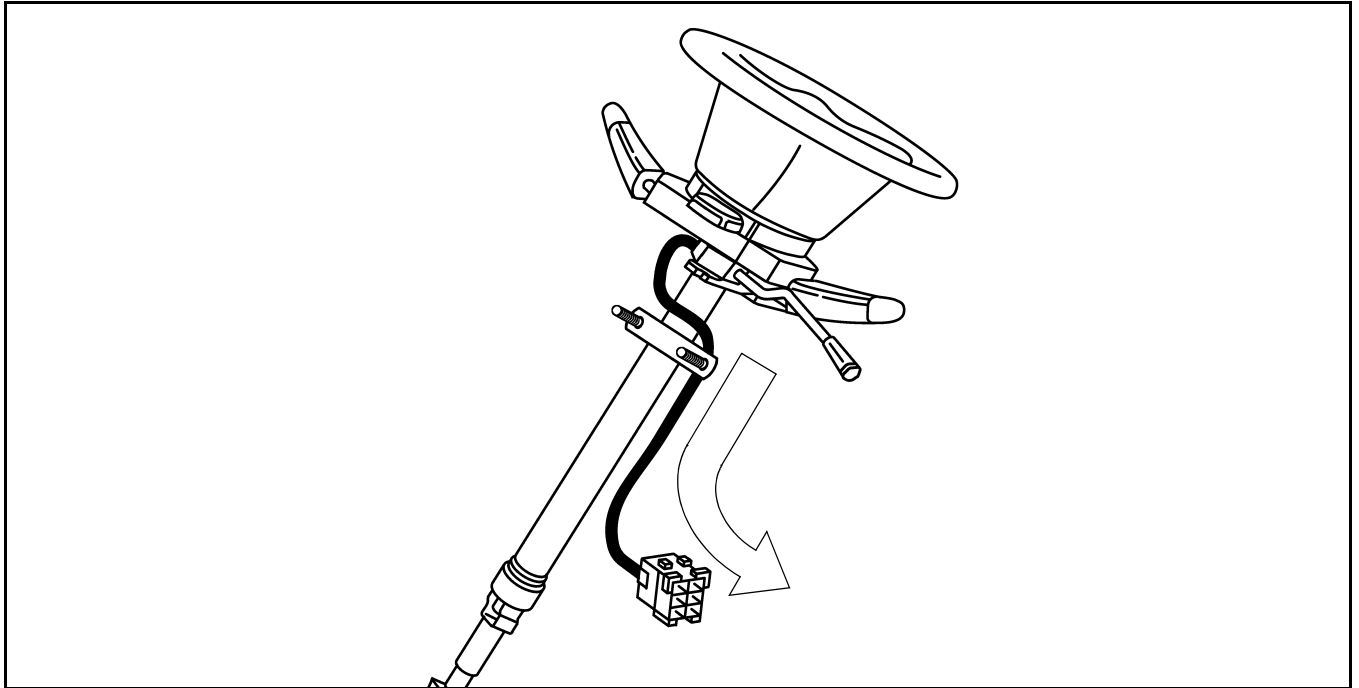

Figure 241 Routing of the Speed Control Switch Wiring Harness
12. Route the speed control switch cable down the steering column towards the engine control module (ECM). See Figure 241.